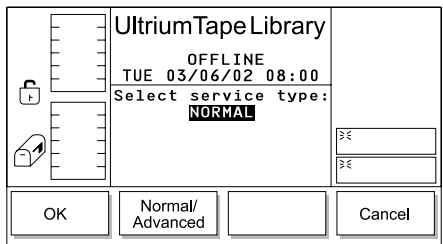

Figure 258. Start Dialog
3. Press the button below the **Start** softkey. The Start Dialog displays (see Figure 258) with the **NORMAL** service type highlighted.